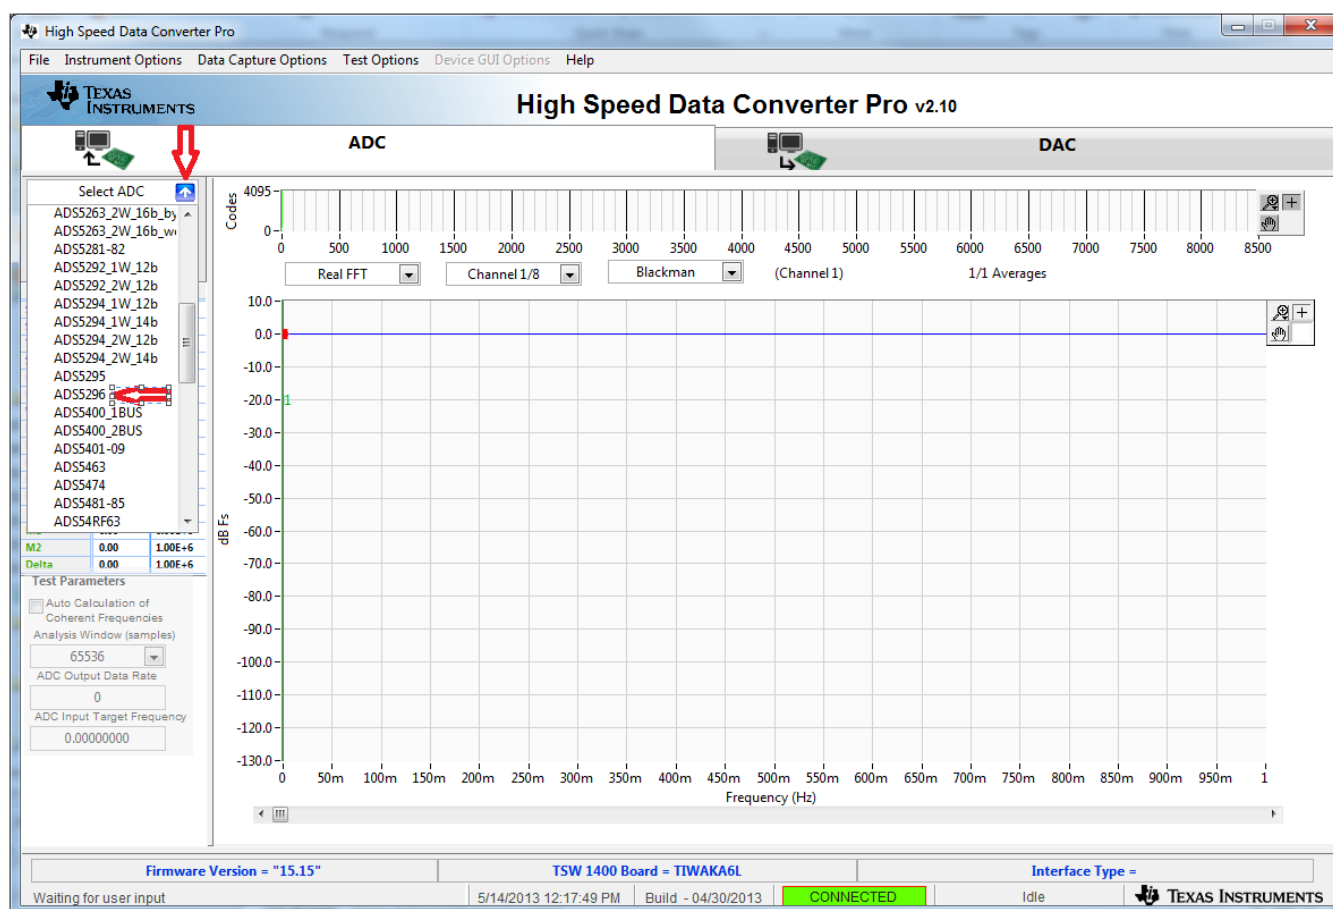

Figure 25. TSW1400 GUI Setup (d)
2. Select a device by clicking on the Blue arrow in the upper left corner of the *HSDCpro* GUI. Scroll down and select *ADS5296* as shown in Figure 25.